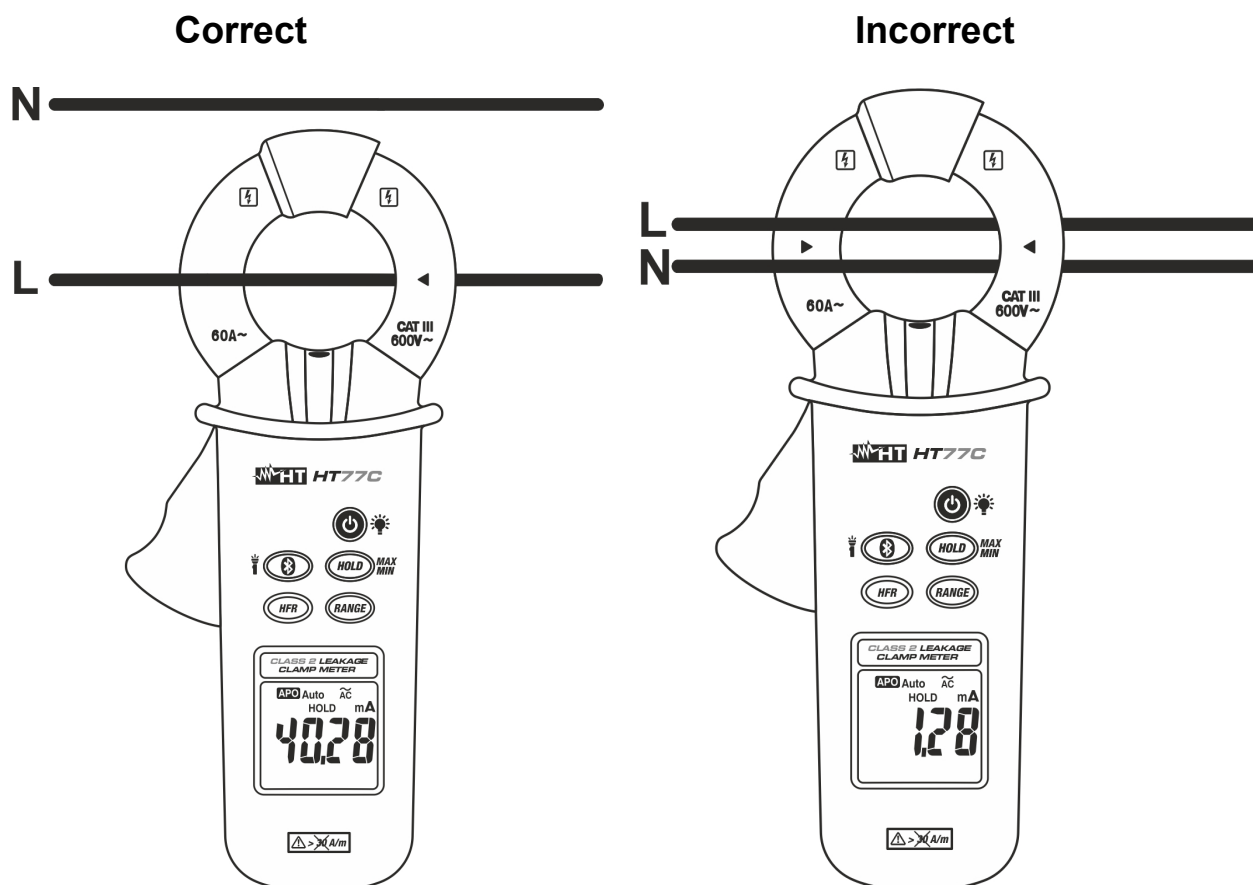

Fig. 3: Use of the clamp for AC current measurement
2. Open the clamp jaw and insert the cable in the middle of it (see Fig. 3 – left part). The current value will be shown on the display